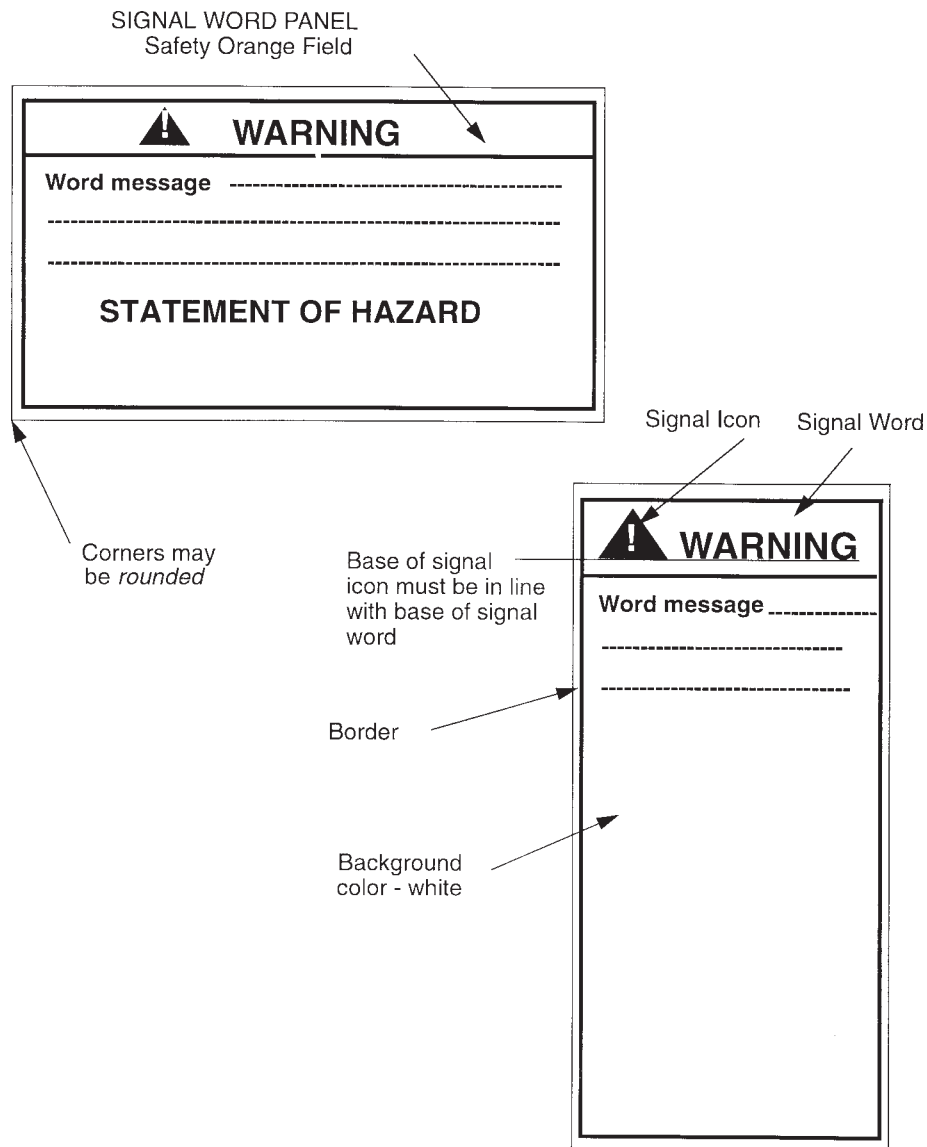

FIG. 1 Horizontal and Vertical General Warning Label Layout
5.1.3 *Label Design*—Design of the label shall comply with all applicable ANSI and ASTM standards for signal word and signal icon placement, signal word panel design and color, message style and content, and letter size and placement (see Fig. 1).
5.1.3.1 *Label Orientation*—Vertical or horizontal label orientation may be used (see Fig. 1).